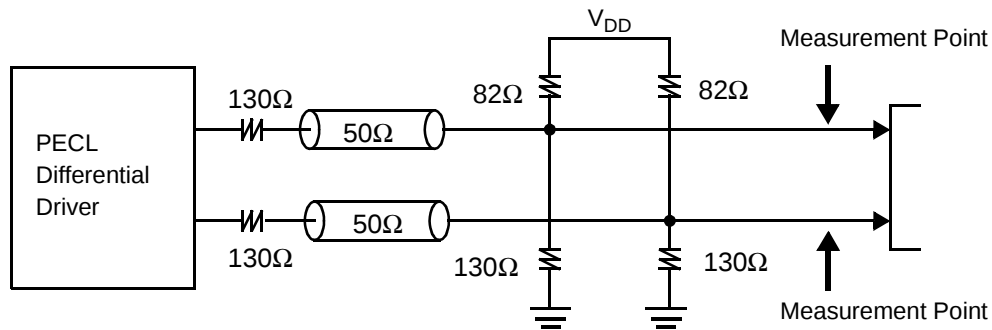
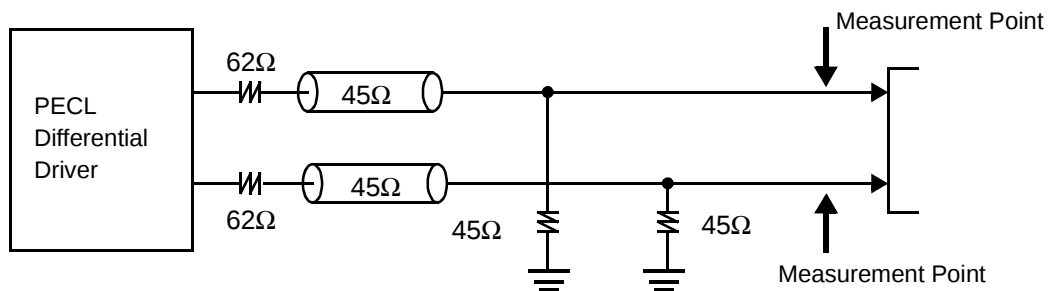

Figure 5. Output Driving Load (-1)
Figure 6. Output Driving Load (-2)
3.3V DC Device Characteristics (Driving load, Figure 5)
3.3V DC Device Characteristics (Driving load, Figure 6)
Figure 5 and Figure 6 show the clock output driver.
The PECL differential driver is designed for low-voltage, high-frequency operation. It significantly reduces the transient switching noise and power dissipation when compared to conventional CMOS drivers. The nominal value of the channel impedance is 50Ω. The pull-up and pull-down resistors provide matching channel termination. The combination of the differential driver and the output network determines the voltage swing on the channel. The output clock is specified at the measurement point indicated in *Figure 5* and *Figure 6*.